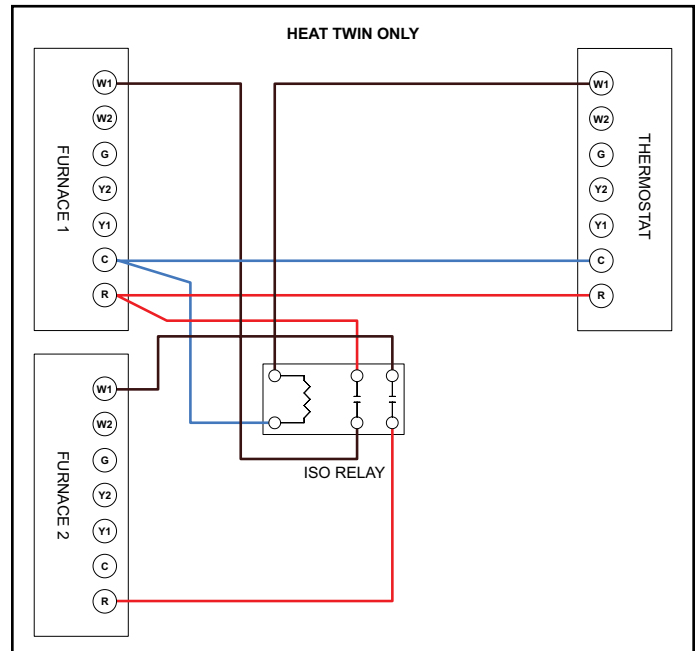
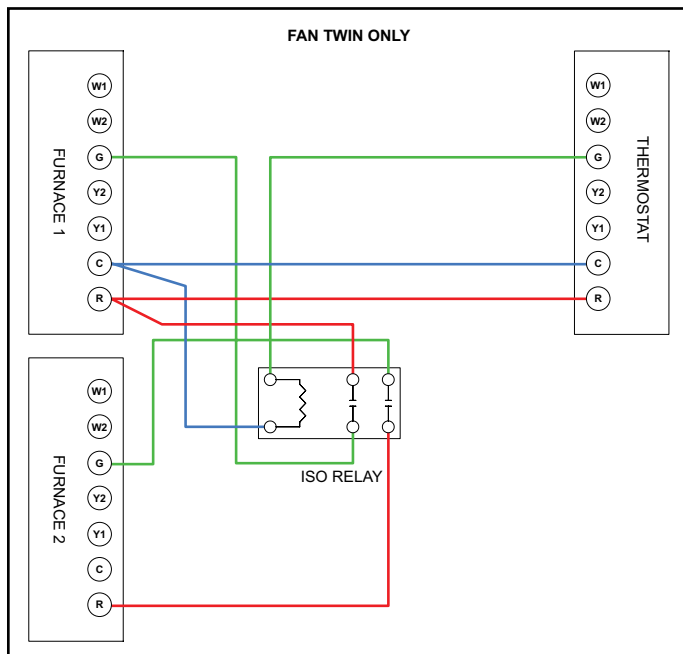

Figure 1.
Figure 3.
2. Connect the thermostat with Furnace 1, Furnace 2, and the DPST relay as shown in Figure 1 through Figure 3. Use the female quick connect terminals supplied in kit and the proper length of 18 gauge wire (field supplied) to complete wiring.
2. Connect the thermostat with Furnace 1, Furnace 2, and the DPST relays as shown in Figure 1 through Figure 3. Use the female quick connect terminals supplied in kit and the proper length of 18 gauge wire (field supplied) to complete wiring.